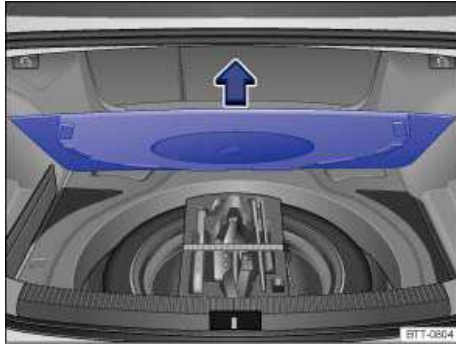

Fig. 205 In the luggage compartment under the floor panel: Compact spare wheel and vehicle tool kit.
The vehicle tool kit is in the luggage compartment in one of several places, such as under the luggage compartment floor panel ⇒ fig. 205. It is secured with a strap and a strap lock.
- Grasp the floor panel by the handle and lift it up in the direction of the arrow ⇒ fig. 205; remove it if necessary.